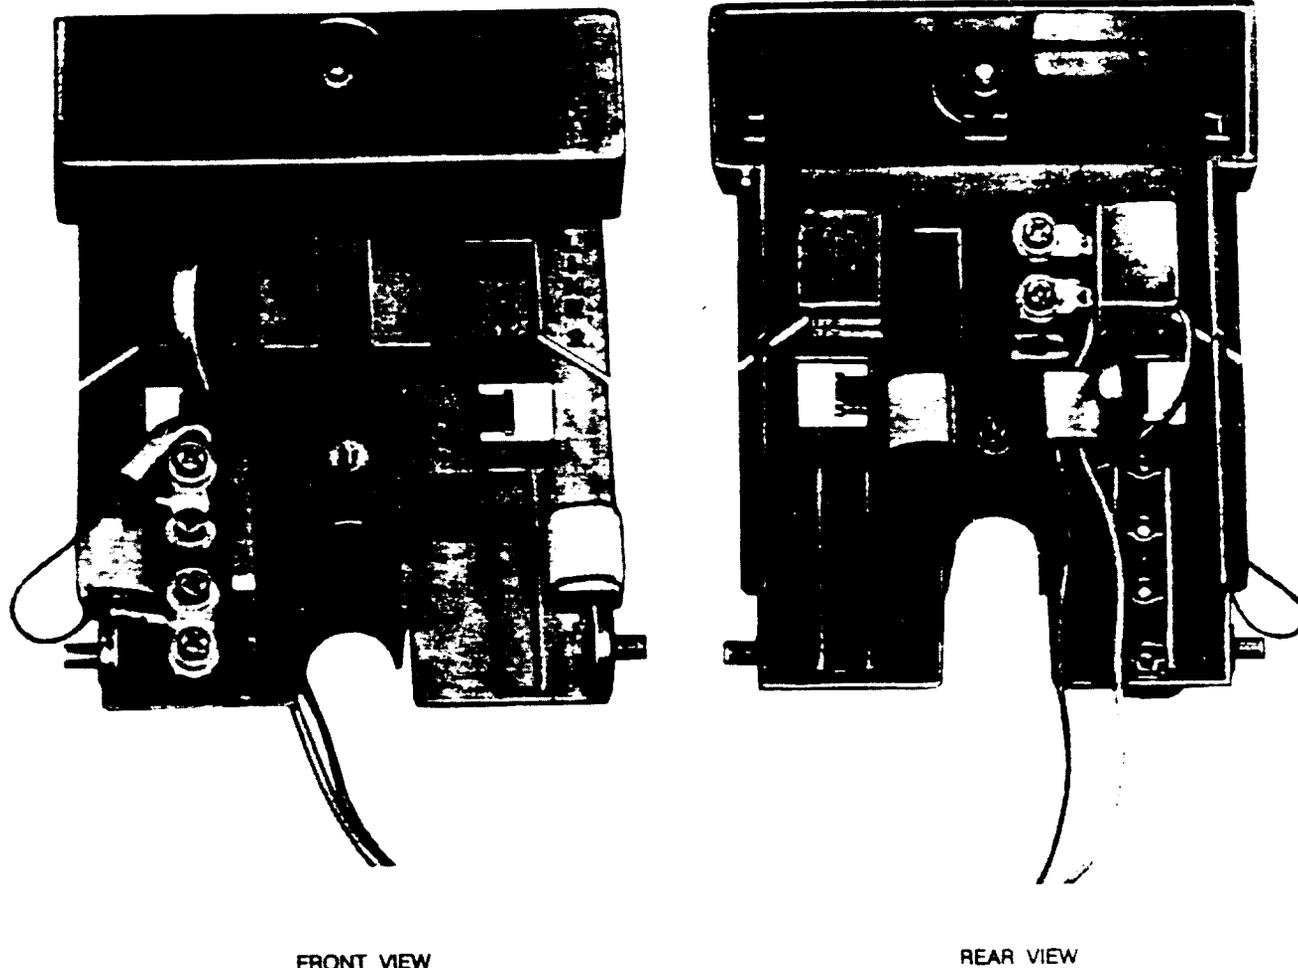

Figure 3. Swing Plate
3.05 The swing plate (Figure 3) inside the NIU provides access to the network side of the box. This cover has a recessed locking nut assembly to safeguard against subscriber entry.
**5.02** The connections listed in Table C are wired (as required). The subscriber connects local prescribed wiring to the corresponding tip-ring subscriber connections located on the subscriber bridge connector. The local telephone company needs only to connect the network pairs to the station protector. With the exception of the protector-to-NIU connection, the connections are shown in Figure 3.